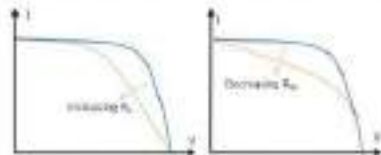

Figure 9 - Effect of Changing R_s and R_{sh} from Ideality
Decreasing R_{sh} and increasing R_s will decrease the fill factor (FF) and P_{max} as shown in Figure 9 below. If R_{sh} is decreased too much, V_{oc} will drop, while increasing R_s excessively can cause I_{sc} to drop instead.